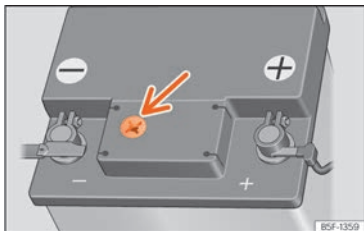

Fig. 240 Sight glass on the top of the 12 volt battery (schematic representation).
- Check the colour display in the sight glass on the top of the battery »» **Fig. 240**. Ensure sufficient lighting to clearly identify the colour shown in the battery window. Never use flames or objects that burn without a flame as a light source.